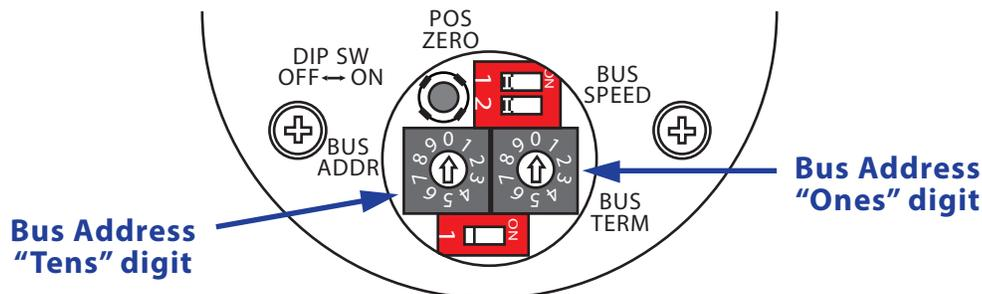

Figure 2.1 Address and Bus Value Switch Locations
The large plug on the back of the RM-89 covers the switches that set the address of the RM-89 on the DeviceNet bus. Figure 2.1 below shows the rear cover of the RM-89 with the plug removed.
The bus address is set with the two rotary switches. When the RM-89 is in the orientation shown in figure 2.1, the switch for the "tens" digits on the left and the switch for the "ones" digit is on the right. The valid address range is 00 to 63. Note that no two devices on a DeviceNet network can share the same address.
- The RM-89 has an internal terminating resistor that can be turned on or off with the Bus Term switch shown in figure 2.1.
The large plug on the back of the RM-89 covers a momentary push button that can be used to reset the position data to zero. See figure 2.1, Address and Bus Value Switch Locations on page 14 for the location of the switch.